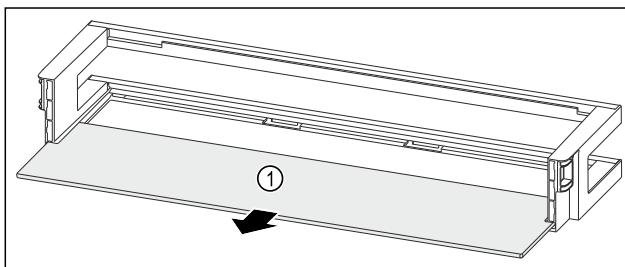

Fig. 171
- ▶ Remove the shelf *Fig. 171 (1)*.